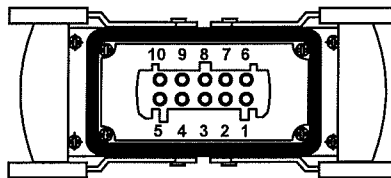

FIG.6 Test Output
2. Test Output – Multiway socket for interfacing with Safety Enclosures, socket boxes and other user preferred devices for connecting item to be tested. See FIG.6 for pin-out details.
PIN	Description of outputs see Fig.6